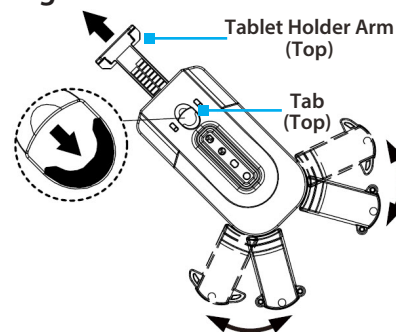

Figure 1
- Pull and hold the top **Tab** and extend the top **Tablet Holder Arm** until it reaches its full length. (Figure 1)